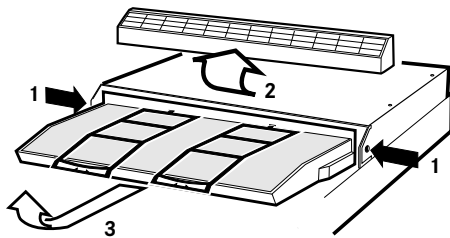

Fig. 9
Push in the snap retainers on both sides of the fan (1) and lift off the front (2). Then pull out and lift off the filter retainer (3), Fig. 9.